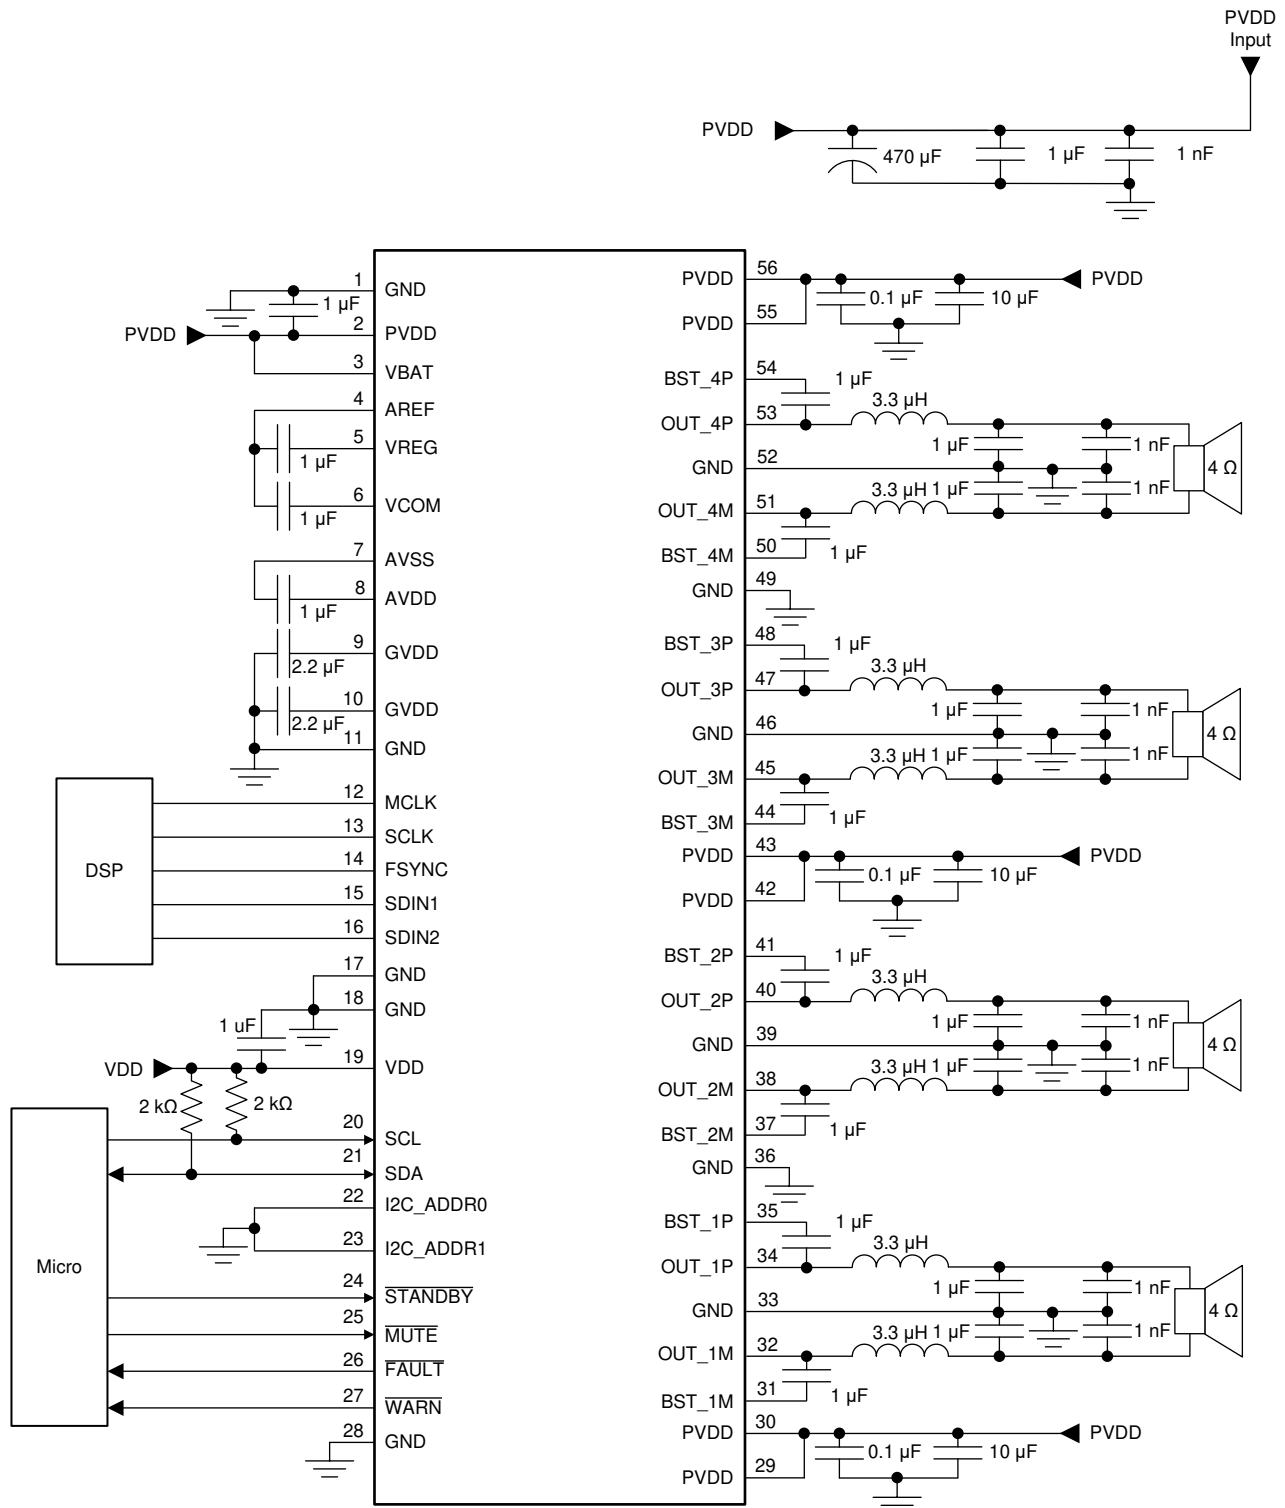

Figure 10-2. Typical 4-Channel BTL Application Schematic
Figure 10-2 shows the schematic of a typical 4-channel solution for a head-unit application.
- With the requirements, adjust the typical application schematic in Figure 10-2 for the input connections.